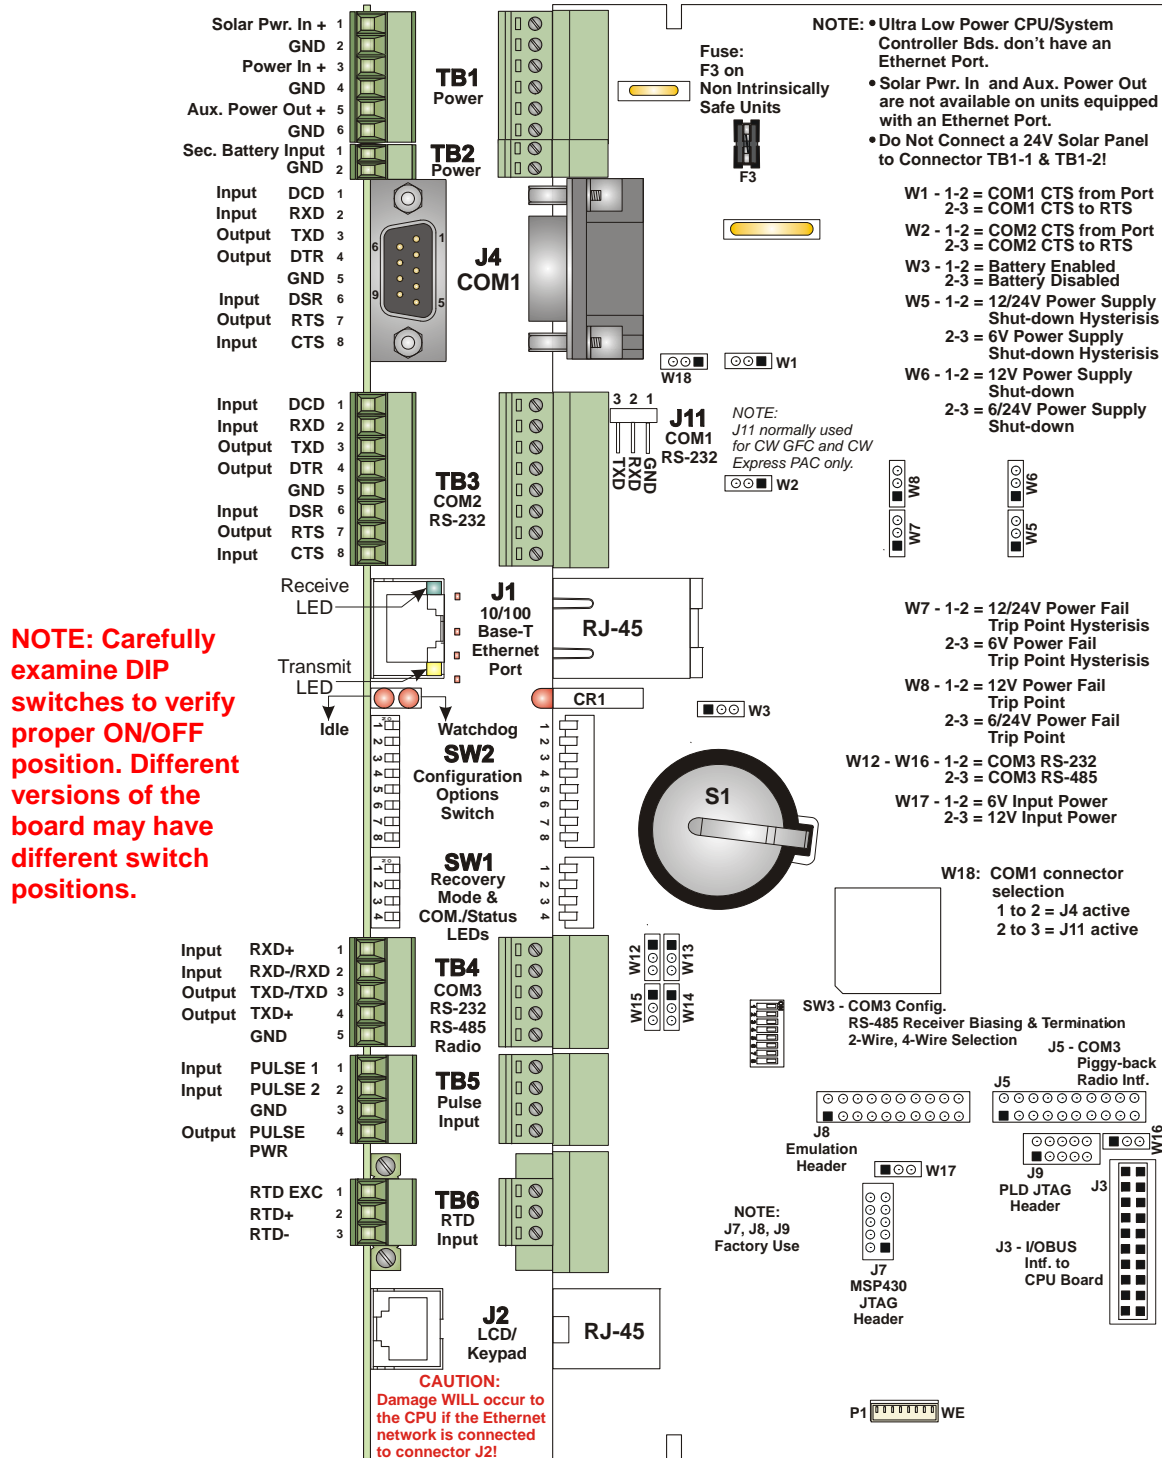

Figure 2-11. - CPU/System Controller Board Component I.D. Diagram
Before you install the CPU/System Controller board, you must determine the settings for three banks of DIP switches. Refer to *Figure 2-11* for the location of the DIP switch banks. Refer to *Tables 2-1, 2-2, and 2-3* for an explanation of the DIP switch positions.
**Note:** Fuse F4 applies only for Class I Division 1 hazardous locations with the intrinsically safe ControlWave GFC-IS. See *Figure 2-11* to locate the fuse. See *Supplement CW-GFC-IS* for more information on the intrinsically safe ControlWave GFC-IS.